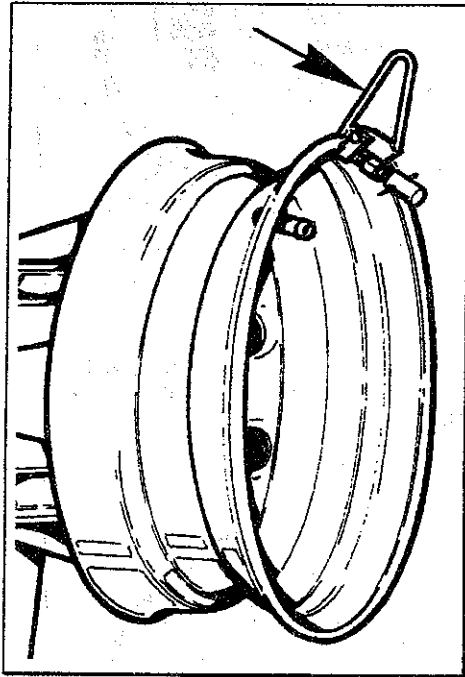

Fig.25
1. Liberally lubricate the entire inner surface of the rim and the tire beads. Attach the mounting clamp (Fig.25) to the outer rim flange with the valve at 11 o'clock and the clamp at 12 o'clock.